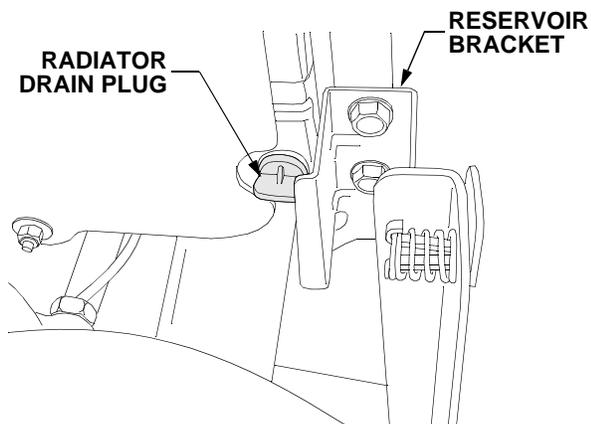

Figure 57
- Locate the radiator drain plug in the lower *right* rear corner of the radiator. See Figure 57.